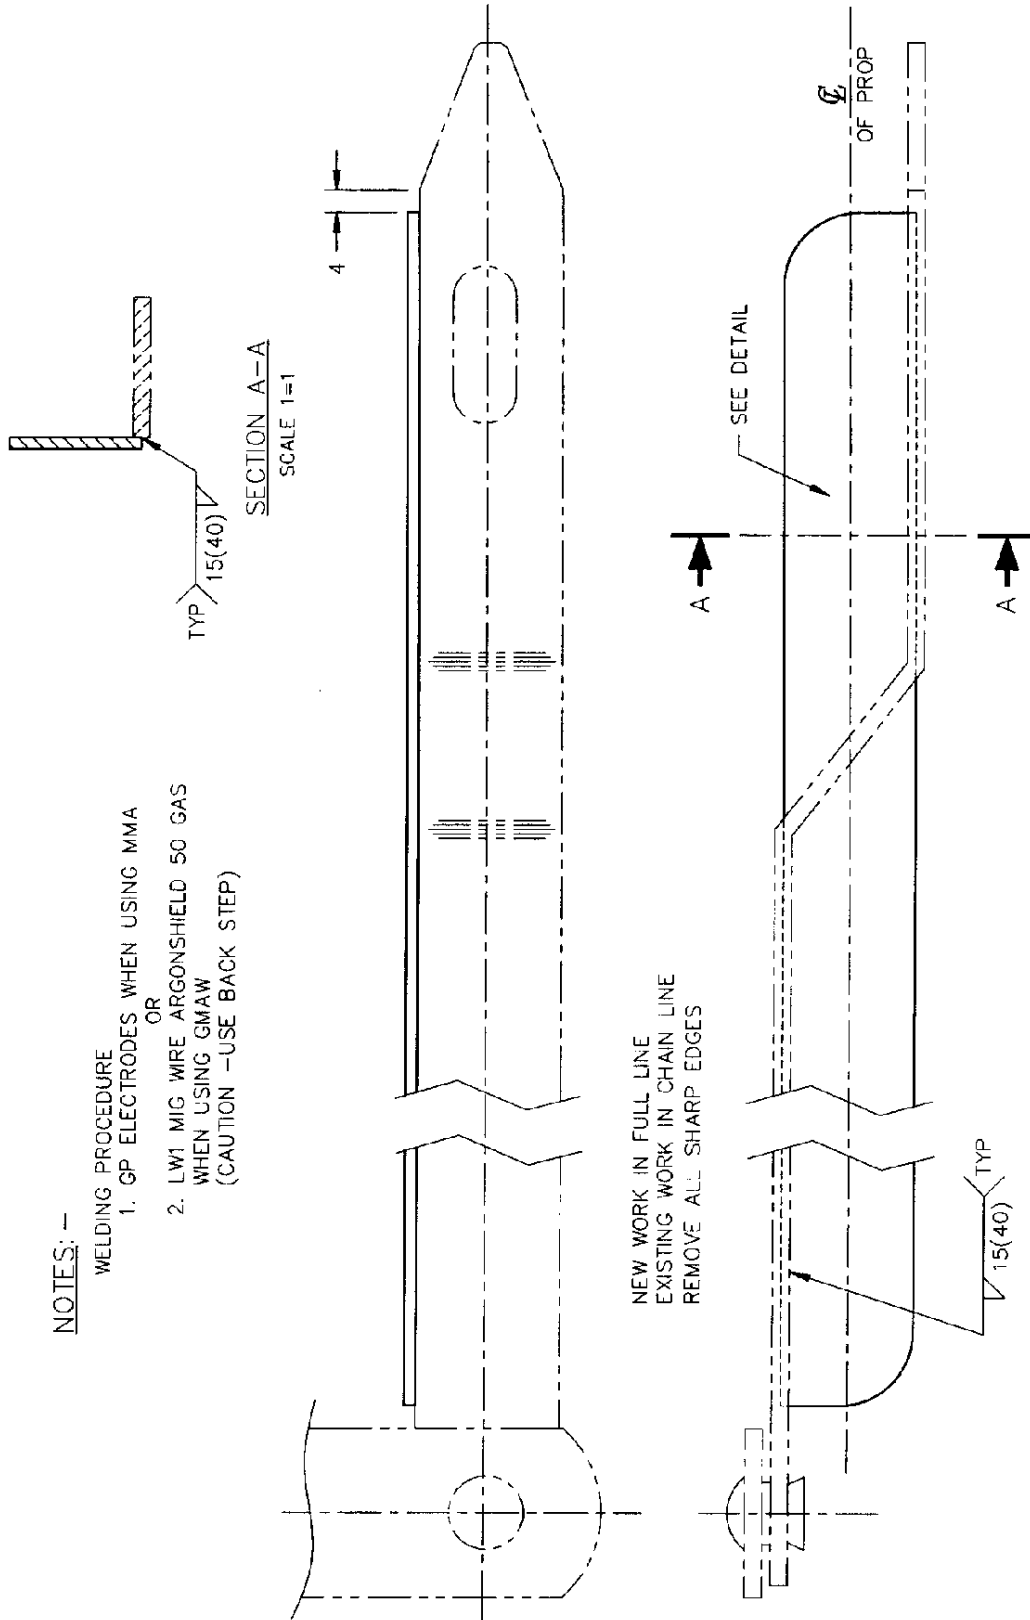

Figure 2 – Modified Bonnet Stay
- d. Using GP electrodes or LW1 welding wire, weld the strengthening strap to the back of the bonnet stay, as detailed in Figure 2.